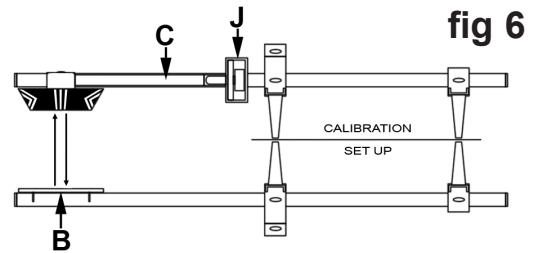

fig 6
4.1.4 When the contact bar arrangements on both units match, proceed to calibrate the gauge (fig 6).
4.1.5 Stand both units close together so that the tips of the contact bars are touching. The mirror unit (fig 6.B) should be vertical, check the built-in spirit level (fig.2D) and adjust using the thumb screw on the leg (fig.2-E2). If the laser beam is not visible on the target plate loosen the thumb screw on the leg (see fig.2-E1) and tilt the laser unit until the beam is visible on the target plate (fig.4G).
4.1.6 Move the pointer arm (fig 6.C) until the laser beam is visible on the vertical centre line in between the two bold arrows.